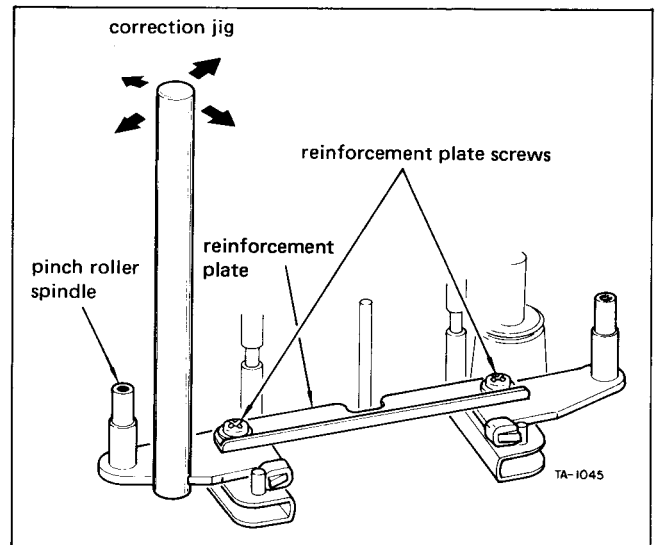

Fig. 2-19 Correction of pinch roller/capstan non-parallelism.
12. If not parallel, loosen the two screws mounting the reinforcement plate then adjust using the correction jig (TEAC P/N 5736000100) as shown in Fig. 2-19.